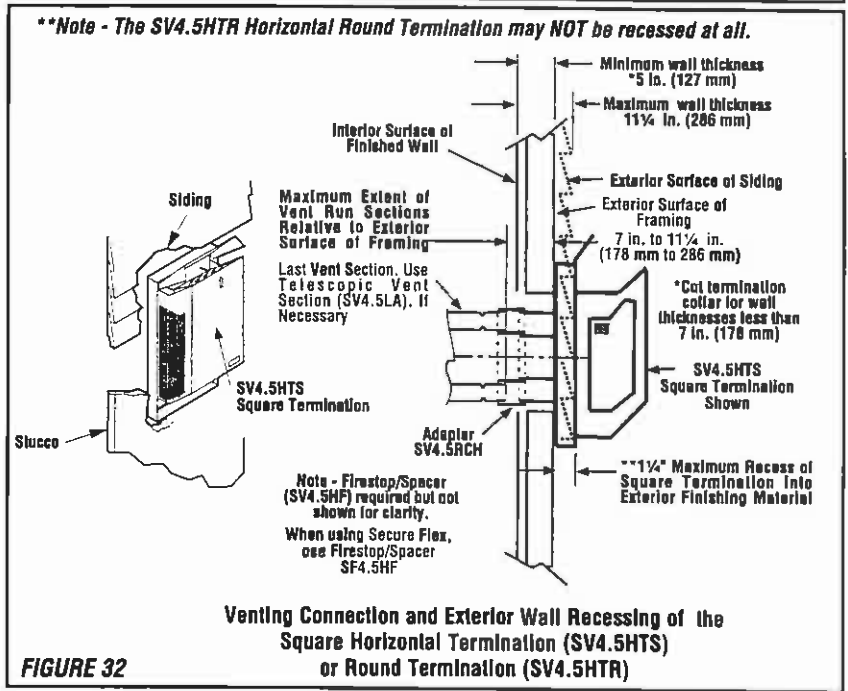

FIGURE 32
J. Assemble vent run to exterior wall - If not previously measured, locate the center of the vent at the exterior wall. Prepare an opening as described in **Step B**. Assemble the vent system to point where the terminus of the last section is within 7 in. (178 mm) to 11¼ in. (286 mm) inboard of the exterior surface to which the SV4.5 HTS termination is to be attached, see **Figure 32**. If the terminus of the last section is not within this distance, use the telescopic vent section **SV4.5LA**, as the last vent section. For wall thicknesses greater than that shown in **Figure 32**, refer to **table 3** on page 17. This table lists the additional venting components needed (in addition to the termination and adapter) for a particular range of wall thicknesses.
1. Install the square termination (SV4.5HTS)- For the last step, from outside the exterior wall, slide the collars of the termination onto the adapter (the outer over the outer and the inner inside the inner) until the termination seats against the exterior wall surface to which it will be attached. Orient the housing of the termination with the arrow pointed upwards. Secure the termination to the exterior wall. **The horizontal termination must not be recessed into the exterior wall or siding by more than the 1 ¼" (32 mm) as shown in Figure 32.**